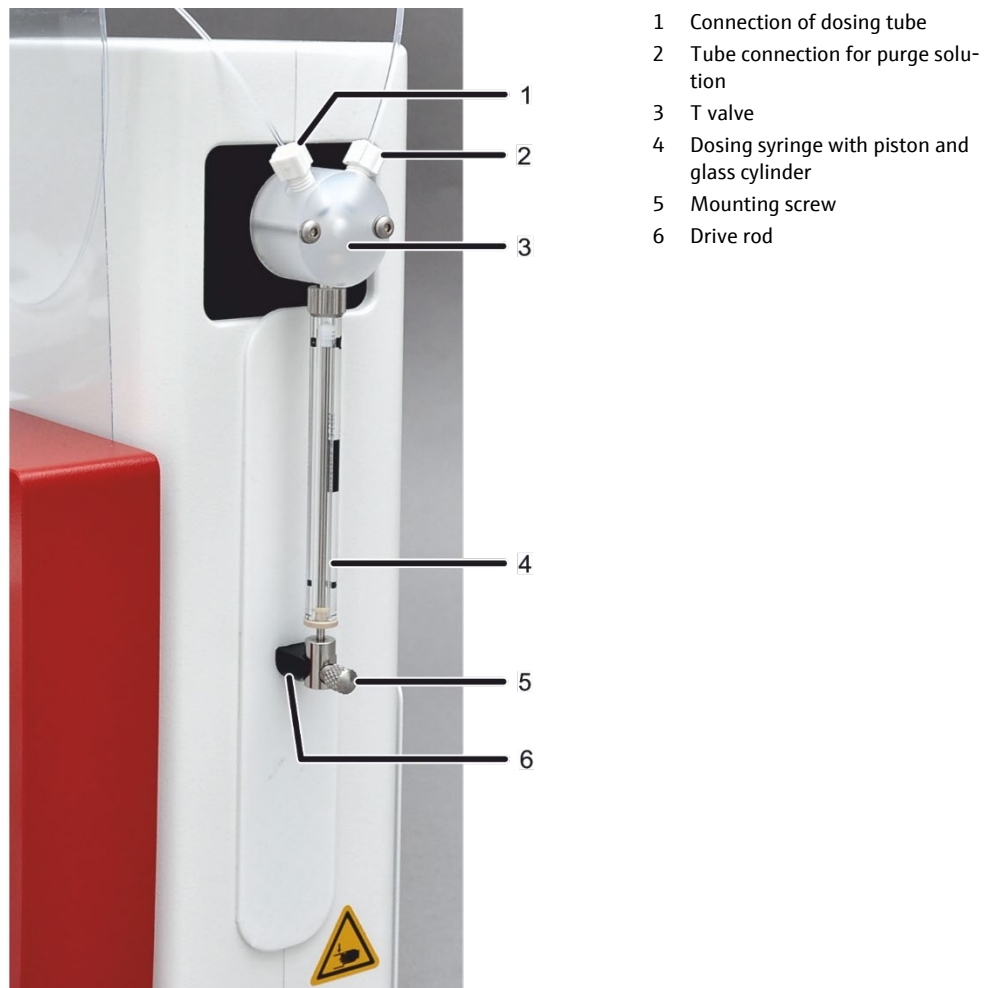

Figure 22 Dosing syringe
3. Unscrew the fixing screw (item 5 in Figure 22).
4. Unscrew and remove the dosing syringe from the valve (4 in Figure 22).
6. Carefully pull the piston down and screw the piston hand-tight to the drive rod with the mounting screw (6 in Figure 22).